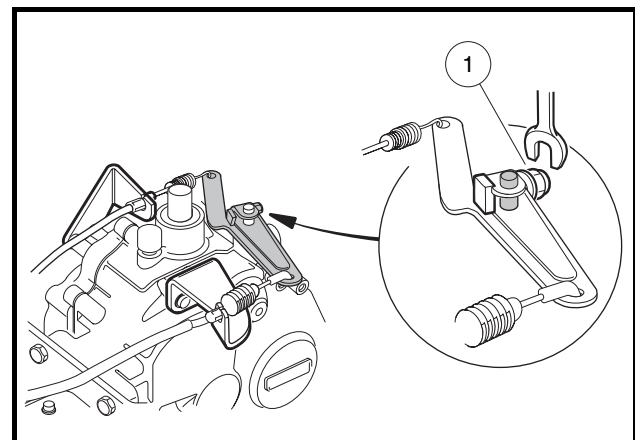

Figure 16-31 Governor Arm
18. Loosen, but do not remove, the governor arm retaining bolt (1) (**Figure 16-31, Page 16-12**). Remove the governor arm from the shaft. Do not disconnect cables.